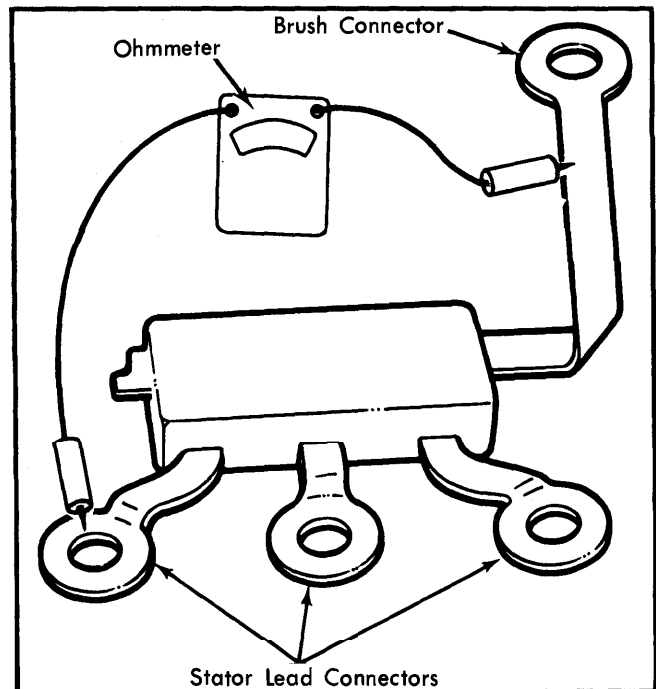

Fig. 15 Bench Testing Typical Diode Trio Using an Ohmmeter
1) Remove diode trio from end frame assembly. Connect an ohmmeter to single brush connector and to any of 3 stator lead connectors. See Fig. 15. A good diode will give one high and one low reading. If both readings are the same, replace diode trio.